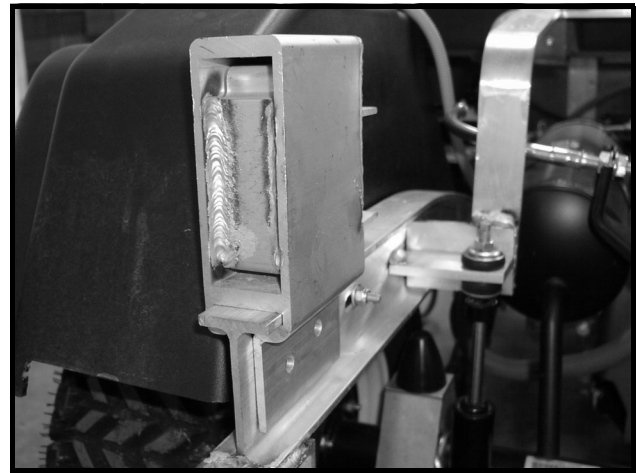

Figure 4-9 Hinge Support
3. Remove support channel bolts and bushings from hinge support channel (**Figure 4-9, Page 4-8**).
4. Remove hinge support bolts and supports (**Figure 4-9, Page 4-8**). **See following NOTE.**